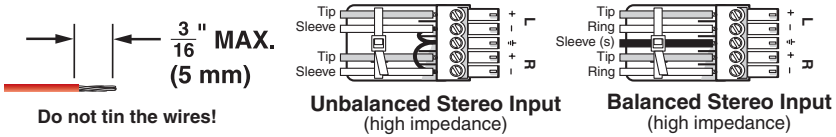

Figure 1-2 — Captive screw input connector wiring
- ③ **Audio input captive screw connector (MTP T SV A, MTP T AV)** — Connect a balanced or unbalanced audio input to this 3.5 mm, 5-pole captive screw connector. Connectors are included with each MTP. See Figure 1-2 to wire a connector for the appropriate input type. Use the supplied tie-wrap to strap the audio cable to the extended tail of the connector. High impedance is generally over 800 ohms.